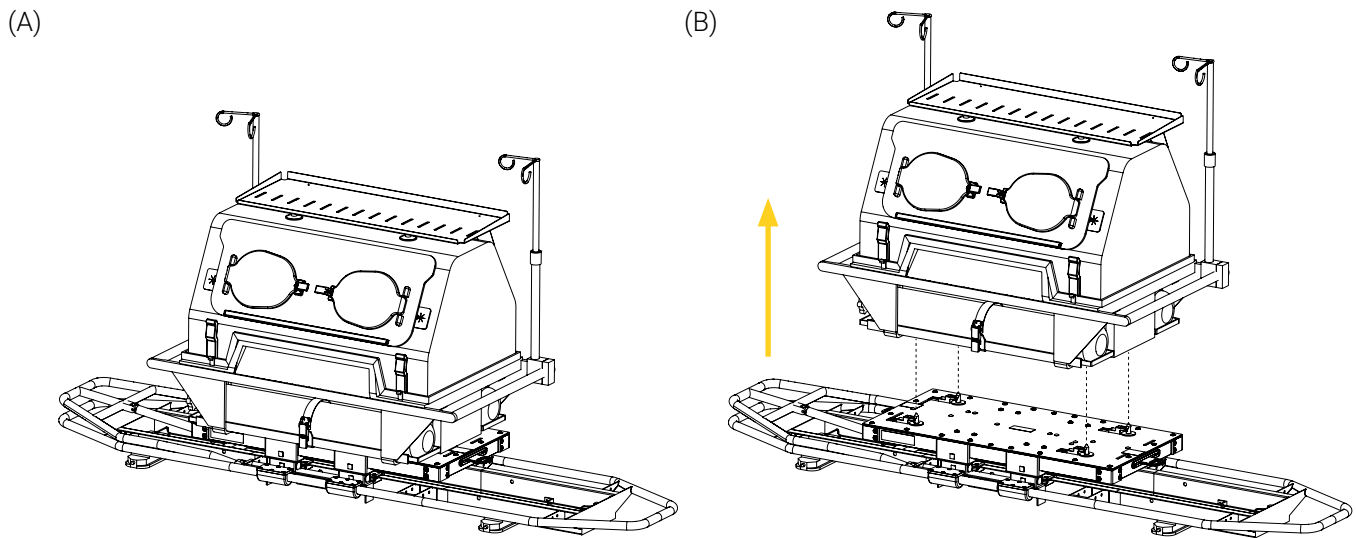

Figure 15: Removing the incubator
3. Lift and remove the incubator from the mounting solution (Figure 15), then set it aside.